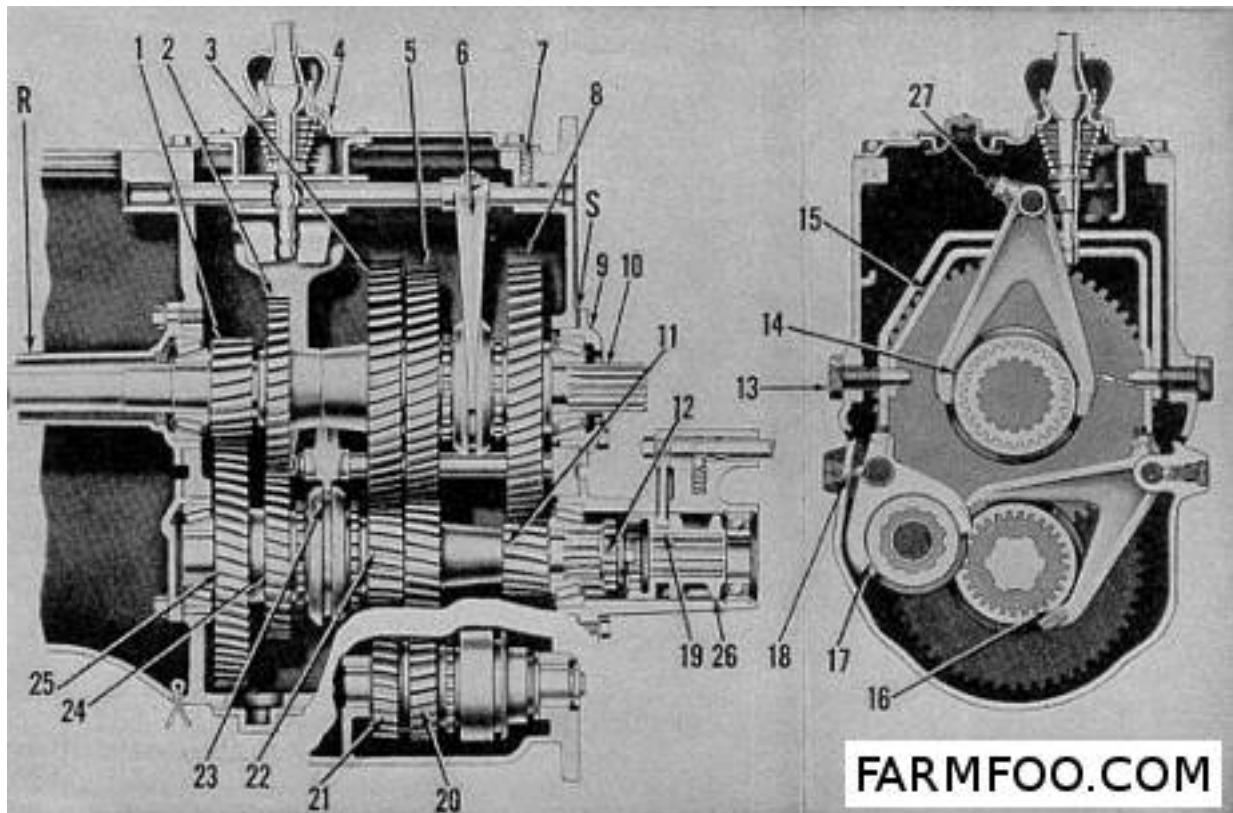
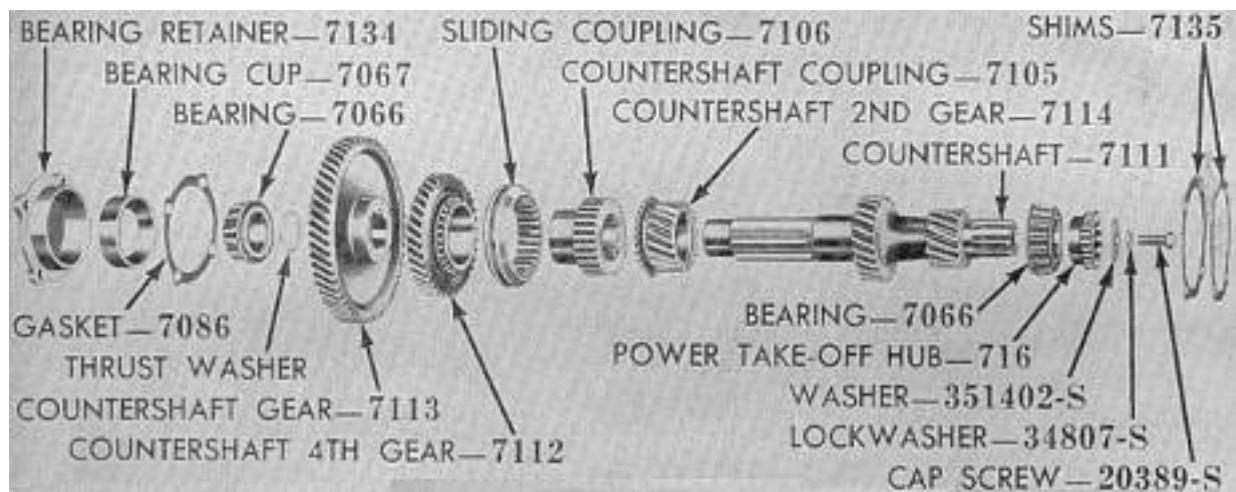

Fig. F057 - Transmission side and end views on model 8N tractor.
Fig. F062 - Countershaft, gears and components on model 8N. The PTO shifter unit is connected to the splined end of this shaft.
Rails and forks may be removed without performing a front section split, after transmission cover and gear shift lever assembly are off and rear section is separated from transmission case as outlined in paragraph 70A. Lift out top shifter rail spring and detent ball (7-Fig. F057) back off shifter fork lock screw (27) and remove shifter rail and fork. Remove shift plate pivot screws (13) from both sides of transmission housing and remove shift plates. Remove both lower shift rails and forks through top opening after detent springs and balls are out.
78. MAINSHAFT. After transmission is removed as outlined in paragraphs 70 and 70A and top shifter rail and fork are out, proceed as follows: Remove mainshaft rear bearing retainer (9-Fig. F057) and shims. Remove clutch shaft (main drive gear) and retainer (R) as a unit. Remove the reverse idler shaft shift rail, allowing fork to
79. **MAIN DRIVE GEAR (Clutch Shaft).** This gearshaft (1-Fig. F057) may be removed after transmission and engine are separated (as in paragraph 65). However, if bearing adjustment is required it will be necessary to perform the rear section split (as in paragraph 70A) to gain access to the mainshaft bearing shims (S) which control the adjustment. Remove gearshaft and retainer (R) as a unit. Renew worn or damaged parts and reassemble shaft and retainer carefully to prevent damage to the oil seal in the retainer. Lip of oil seal should face towards rear. After shaft is reinstalled check bearing adjustment and if necessary readjust as outlined in paragraph 78A.
80. COUNTERSHAFT. This shaft (11-Fig. F057) may be removed after mainshaft is out but before reverse idler gear is removed. Remove power take-off shifter and bearing support and remove shifter clutch hub from rear end of countershaft. Remove countershaft and gear assembly through cover opening in top of transmission housing. Renew worn or damaged parts and reassemble as shown in Fig. F062. Reinstall the assembly and adjust bearings by means of shims (7135) to obtain zero end play or 15-30 inch pounds torque with shaft in motion and mainshaft removed from transmission. If tested with mainshaft installed, turning torque will be 30-60 inch pounds. Shaft should be rotated for checking bearing adjustment by inserting PTO shaft in shifter unit and engaging the jaw clutch.